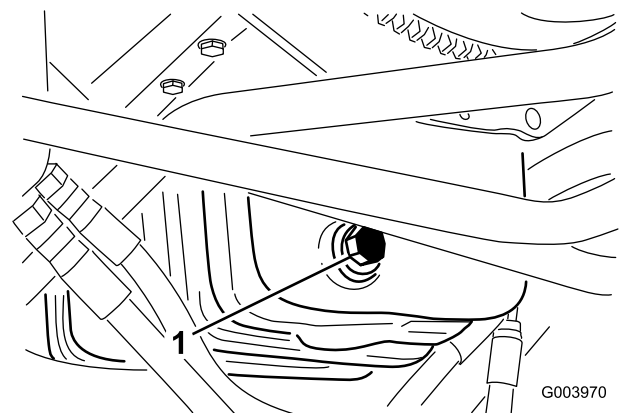

Figure 61
1. Remove the drain plug (Figure 61) and let the oil flow into a drain pan.